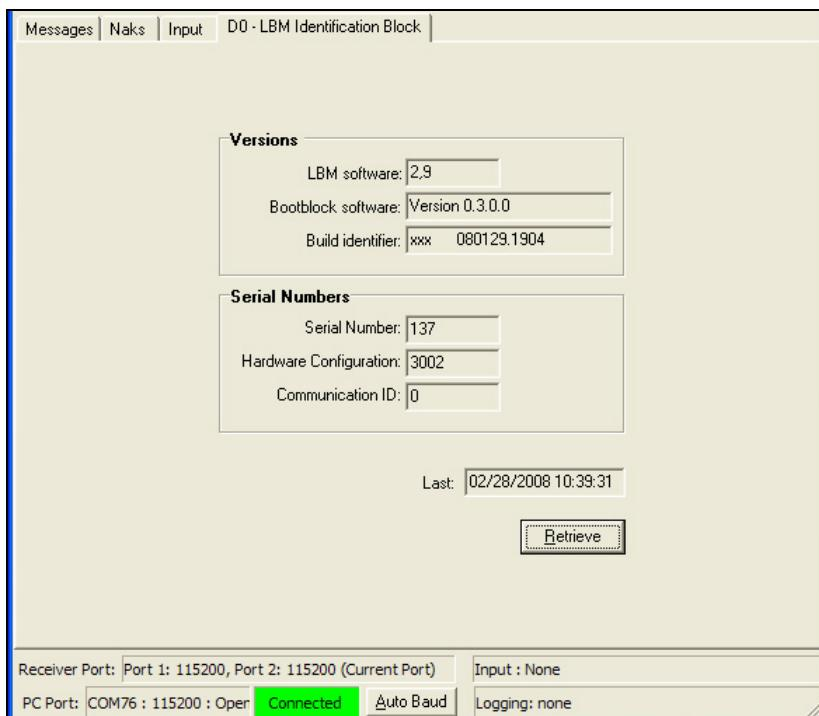

Figure 79: D0 – LBM Identification Block
- The *D0-LBM Identification Block* tab (see Figure 79) and the *D1-LBM License Status* tab (see Figure 80) display the serial number for the StarFire™ receiver.